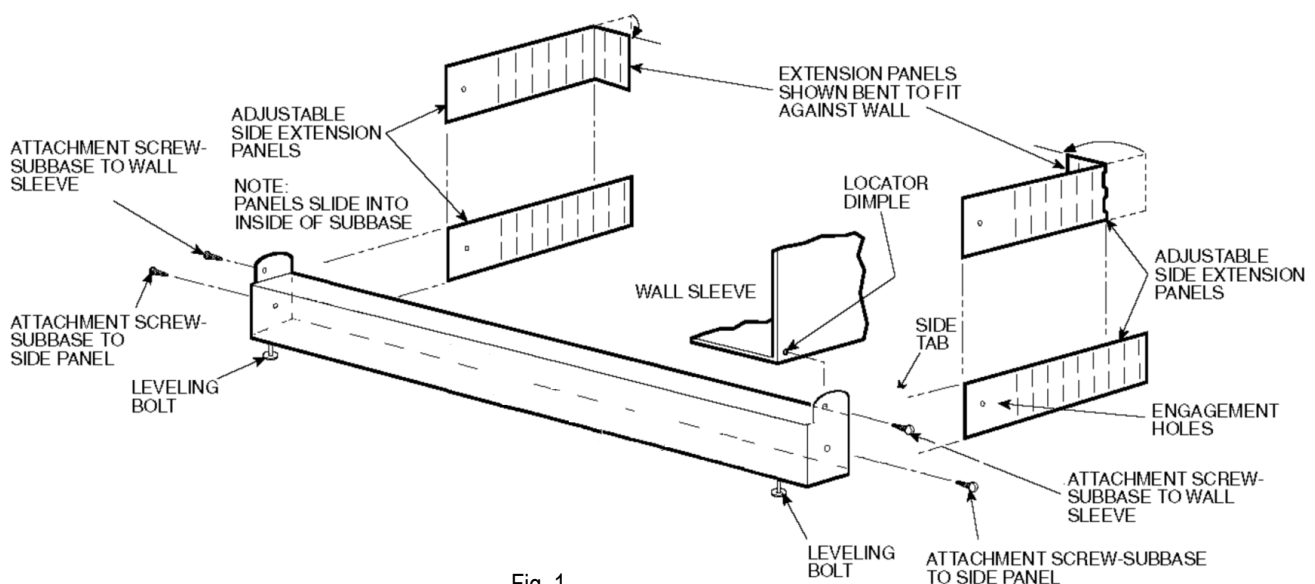

Fig. 1
Step 1 — Prepare wall sleeve. Drill one 1/8 in. hole on each side of wall sleeve. Drilling can be done through the plastic from inside if desired. See Fig. 1.
Step 3 — Attach Side Extension Panels to subbase using 1 black screw on each side so that panel end extends dimension X plus 2 in. from front of subbase. To adjust side panel, simply bend panel at slot position. See Fig. 1.
Step 4 — Attach subbase to wall sleeve. Subbase has side tabs for mounting the subbase to the sleeve. Be sure hole on side tab is lined up with locator hole on side of sleeve. Once holes are aligned, attach subbase to sleeve with (1) one black screw on each side. Do not overtighten. See Fig. 1 and 3.